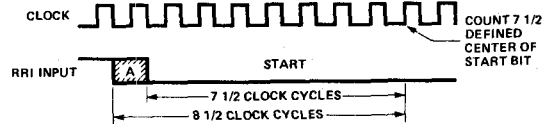

FIGURE 9. Start Bit Timing
The receiver uses a 16X clock for timing (see Figure 9.) The start bit (A) could have occurred as much as one clock cycle before it was detected, as indicated by the shaded portion. The center of the start bit is defined as clock count  $7\frac{1}{2}$ . If the receiver clock is a symmetrical square wave, the center of the start bit will be located within  $\pm 1/2$  clock cycle,  $\pm 1/32$  bit or  $\pm 3.125\%$ . The receiver begins searching for the next start bit at the center of the first stop bit.